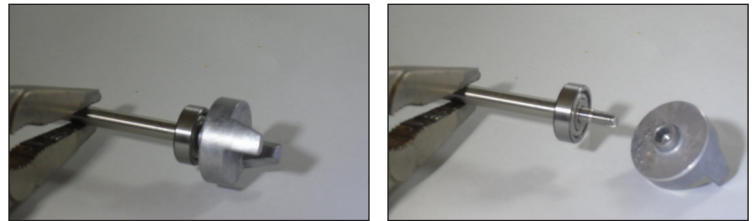

Figure 5 A, B, C
Important - The shaft should only be removed if the bearing is frozen and needs to be replaced. Hold the pump shaft (item 4) with a pliers or vise grip. Turn the half coupling (item 2) counter clockwise (right hand thread) to remove it from the shaft. The bearing (item 3) will slide off the shaft. See Figure 5 A, B, and C. If the bearing is frozen or corroded to the shaft use a penetrating fluid and socket to help tap it off. Install a new bearing (item 3), reuse and hand tighten the half coupling (item 2). These items will only fit properly on one end of the shaft.